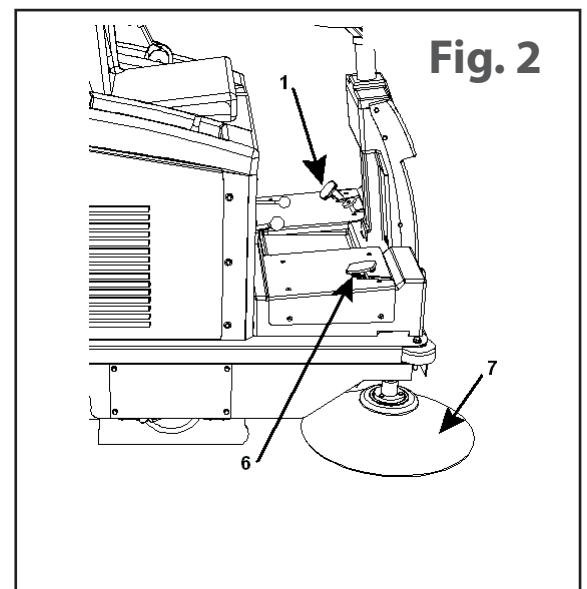

Fig. 2
1. Position a sloping surface (having a load-bearing capacity suitable for the weight of the machine) close up to the narrow side of the pallet. This must be at least 1,5 m long (so as not to damage the rubber dust seals) and 1 m wide. Remove the pieces of wood around the wheels and release the parking brake **Part. 1 Fig. 2**, pressing this so as to release the retention lever. At this point, simply push the machine onto
At the end of the unpacking operation, remove and keep the eyebolts and fit the right side brush **Part. 7 Fig. 2** and, if necessary, the left side brush as shown in **pag. 17**.